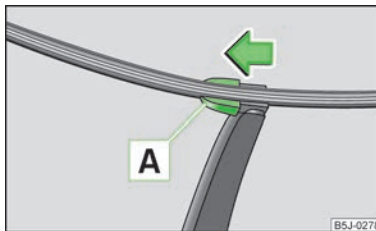

Fig. 33
- Fold the windscreen wiper arm away from the windscreen and position the wiper blade at a right angle to the wiper arm » Fig. 33.
- Position the wiper blade onto the wiper arm and lock the locking button **A** » Fig. 33.